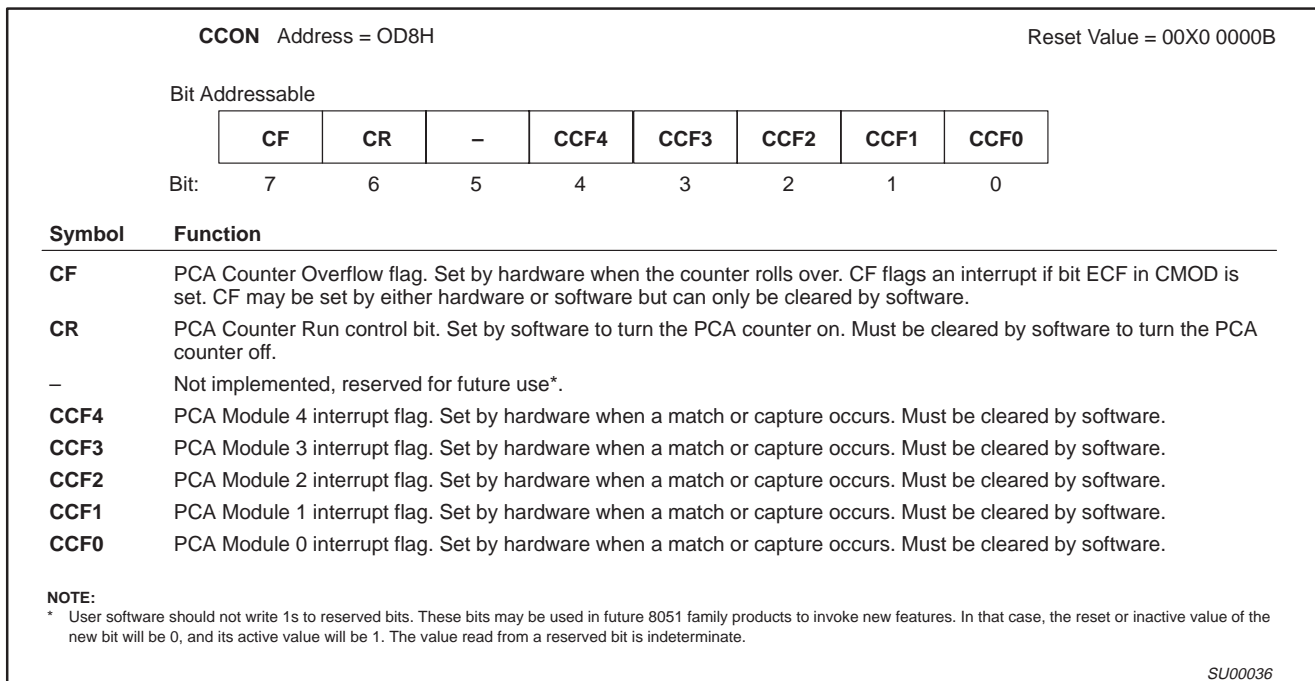

Figure 6. CCON: PCA Counter Control Register
The CCON SFR contains the run control bit for the PCA and the flags for the PCA timer (CF) and each module (refer to Figure 6). To run the PCA the CR bit (CCON.6) must be set by software. The PCA is shut off by clearing this bit. The CF bit (CCON.7) is set when the PCA counter overflows and an interrupt will be generated if the ECF bit in the CMOD register is set. The CF bit can only be cleared by software. Bits 0 through 4 of the CCON register are the flags for the modules (bit 0 for module 0, bit 1 for module 1, etc.) and are set by hardware when either a match or a capture occurs. These flags